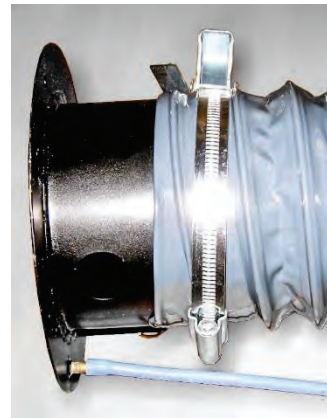

Figure 5. Connecting Pressure Tubing to Tap on Primary Duct Adapter. Bung not shown.
8. If the static pressure tap on the black Primary Duct Adapter is open to the duct, connect the 16-ft (5-m) long blue silicone tube to it as shown in Figure 5.
3. Connect the (+) port on the Model 5815 to measure the duct static pressure (see Figure 5).